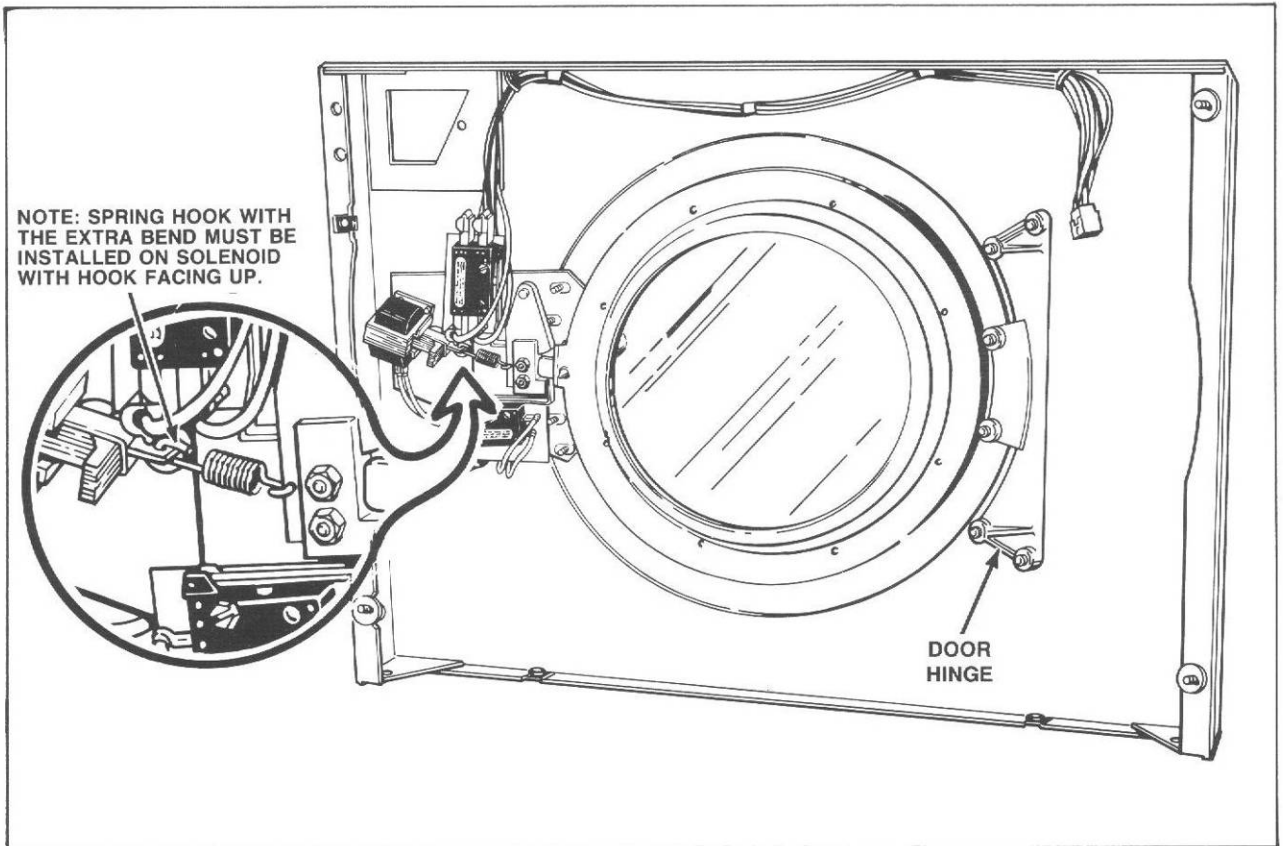

Figure 14
- Remove six screws holding door hinge to front panel, *Figure 14*.
- d. Remove two wire harness clips from top flange of front panel, *Figure 14*.
**NOTE:** When connecting spring to solenoid, hook on spring must be facing up, *Figure 14*.